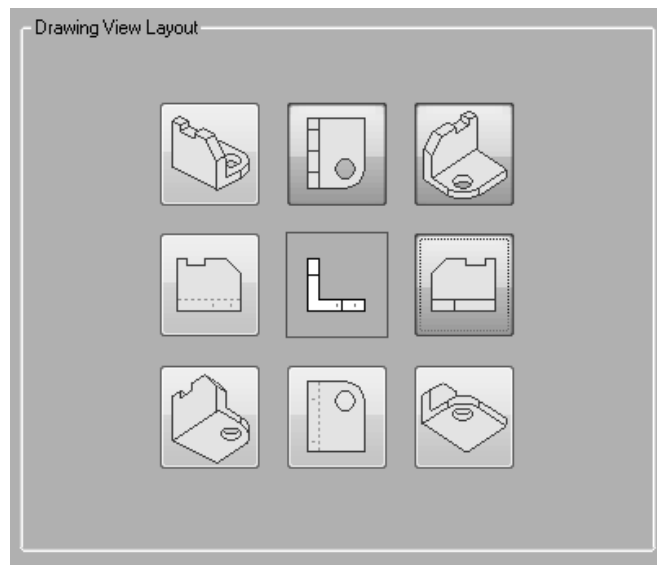

Figure 12-35 The **Drawing View Layout** page of the **Drawing View Creation Wizard**
5. In the **Drawing View Layout** page, select the views shown in Figure 12-35 and then choose the **Finish** button.